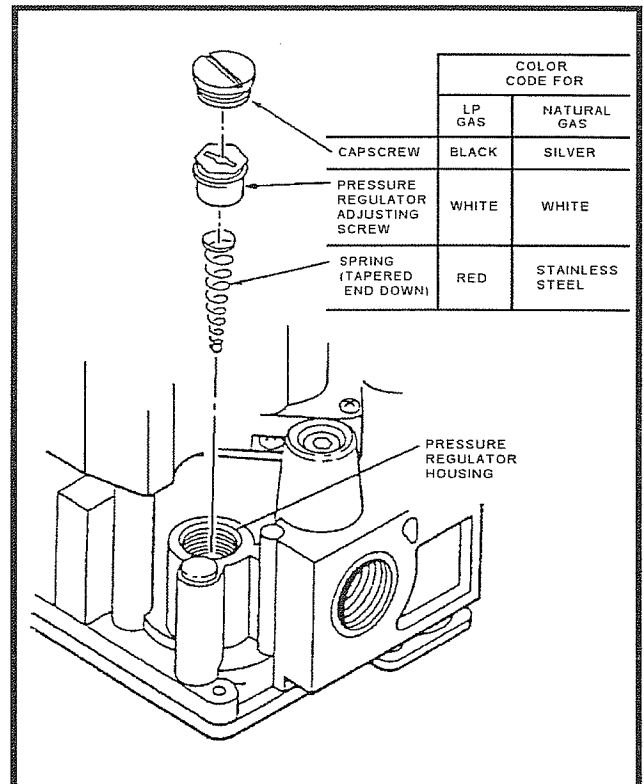

Figure 2 - VR8200, VR8204, VR8300, and VR8304 Gas Valves
5. Replace the natural gas regulator on the gas valve with the enclosed propane gas regulator. On the gas valve, insure that the tapered spring is inserted correctly. See figure 2.